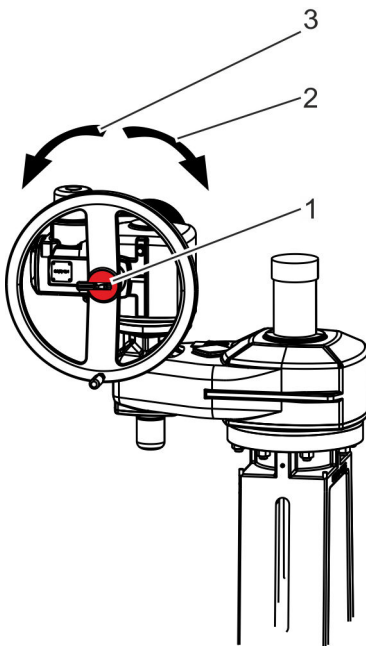

Fig. 20: Electric actuator: Using the handwheel in an emergency (shown here: DSK 26 PD 25 65–300)
2. ➤ Couple the handwheel (Fig. 20/1).
- Turning clockwise (Fig. 20/2): Closes the valve.
- Turning anticlockwise (Fig. 20/3): Opens the valve.